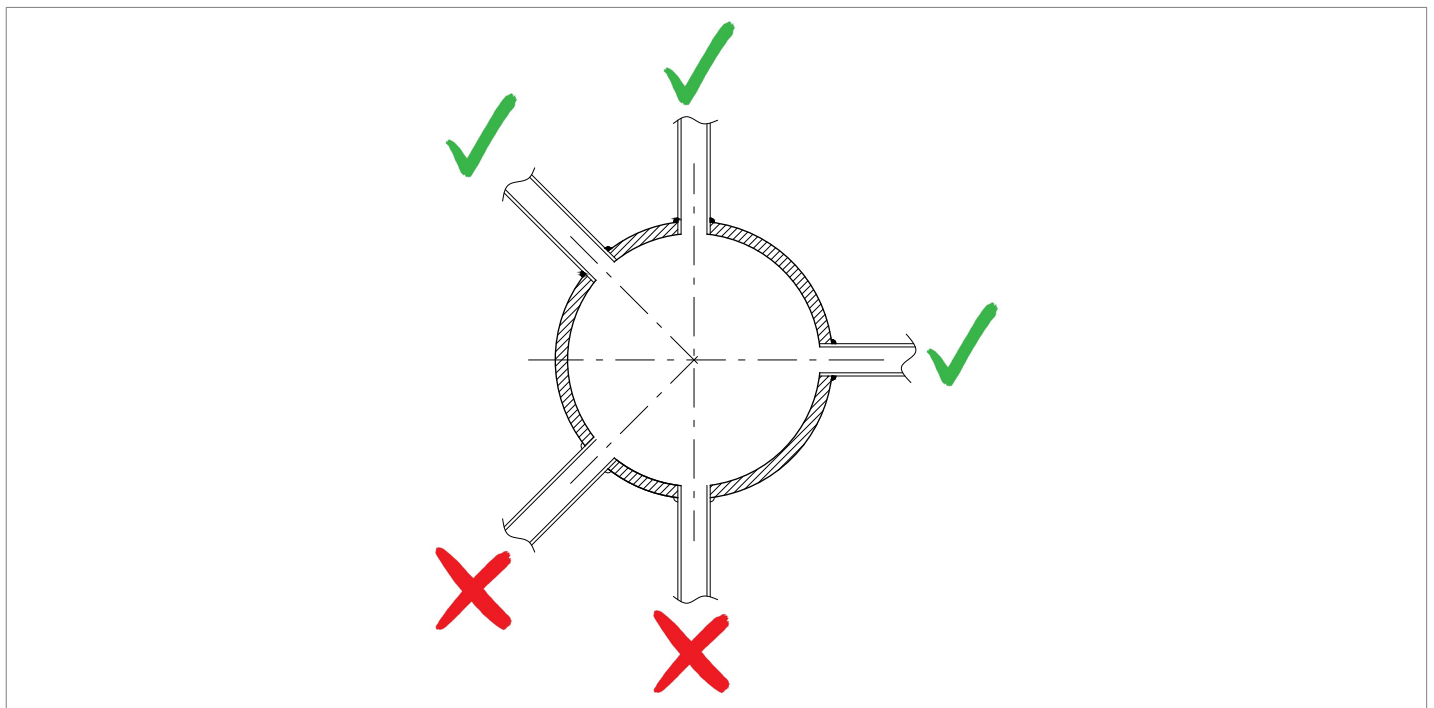

Fig. 6.15. Welded pipe connections
- the connections of the pneumatic connection are always welded to the top or horizontal axis of the pipe itself (refer to Fig. 6.15);